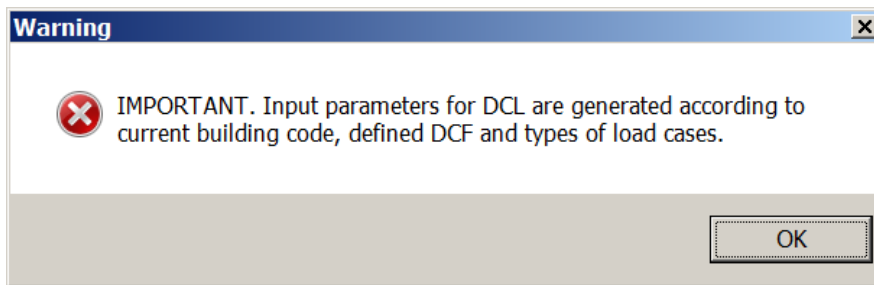

Figure 19.21 **Warning** box
- ⇒ In the **Warning** box (see Fig.19.21), click **OK**.